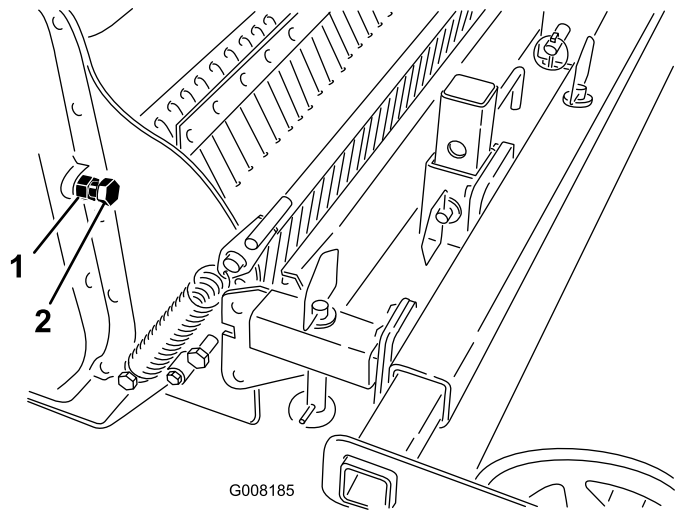

Figure 11
3. Turn the screw in by hand until you feel resistance (Figure 11).
2. Loosen the jam nut on the chain adjusting screw (Figure 11).